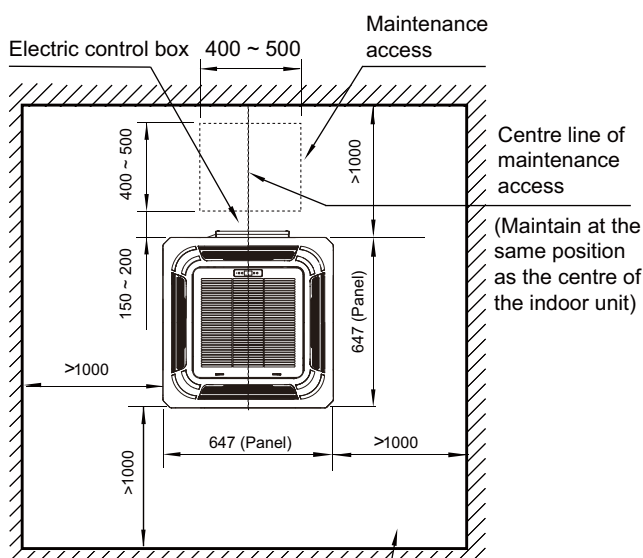
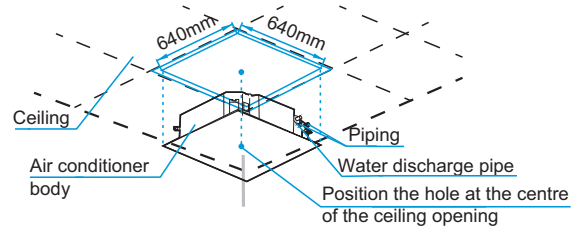

Figure 2.1
Figure 3.5
1. Drill 640 mm x 640 mm square holes into the ceiling based on the layout of the installation board (accessory 2). See Figure 3.5. See Figure 2.1 for maintenance access.